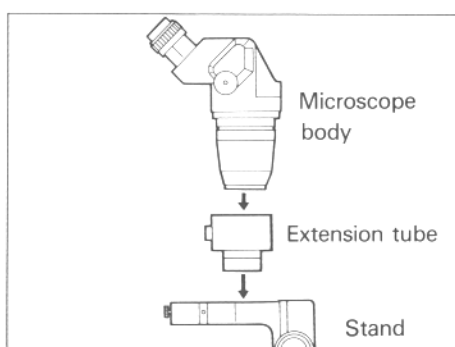

Fig. 8
- (1) Screw the conversion lens into the mounting thread at the bottom of the microscope body.
- (2) As the working distance of the 0.5X conversion lens (110AL0.5X and 100AL0.5X) is long, use the extension tube (SZ-ET) when making observations using the stand. (Fig. 8)